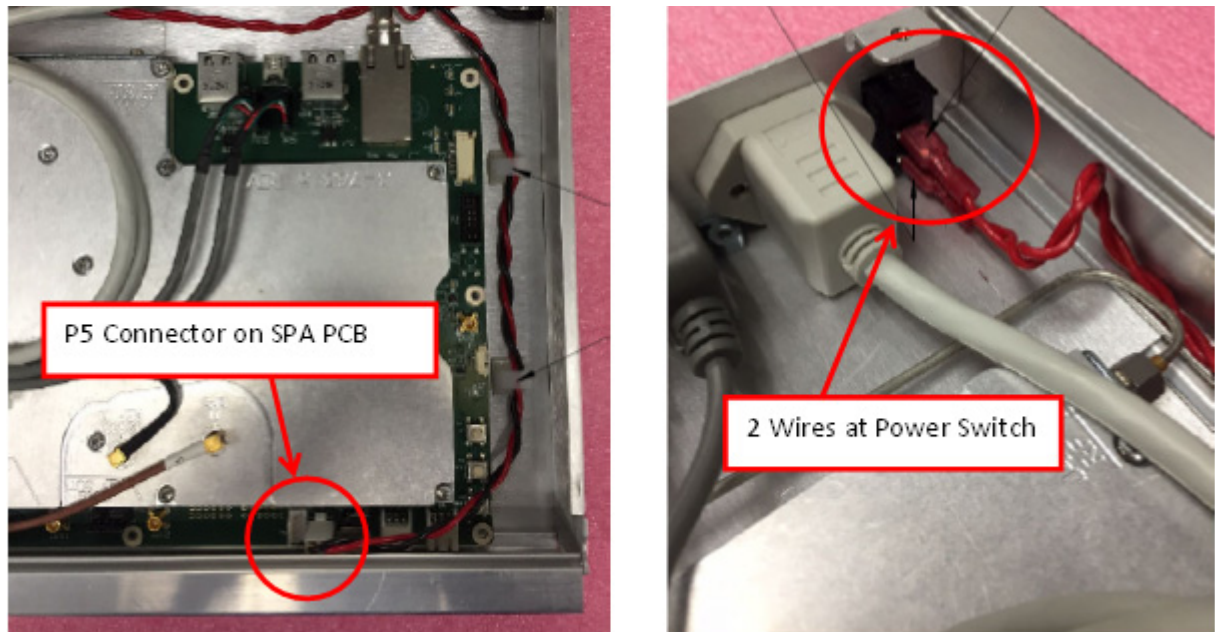

Figure 3-2. Rear Panel Cable Connections
2. Referring to Figure 3-2, remove the two cables from the front power switch and the cable connector located at P5 of the SPA. The rear panel can then be removed.